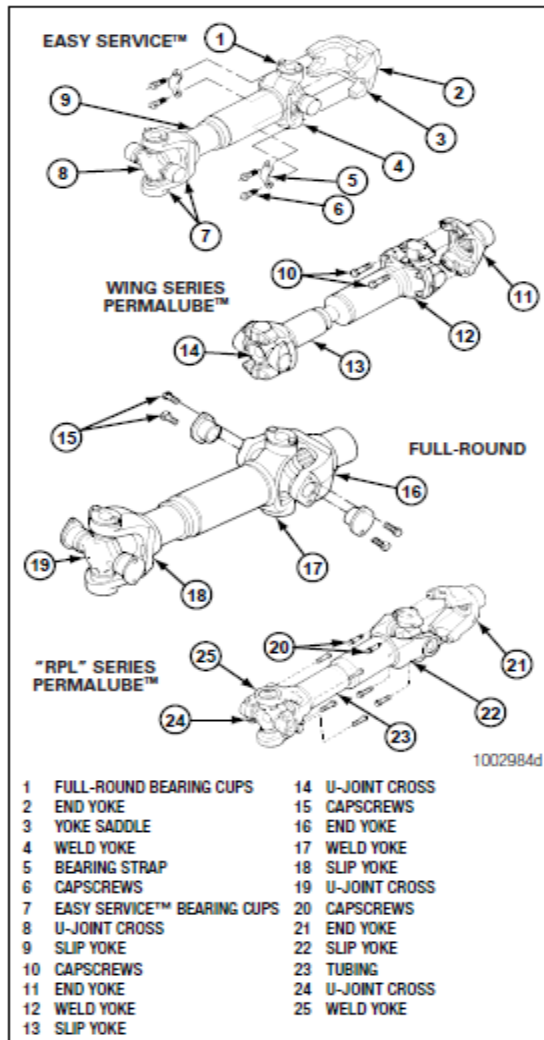

Figure 3.5
- Disconnect the driveline universal joint from the pinion input yoke or flange on the carrier. Figure 3.5.